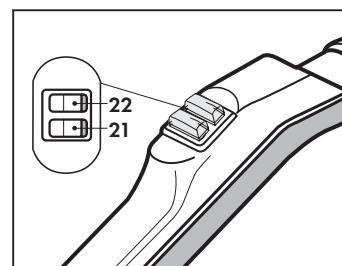

Fig. 10
- deliver steam and/or detergent, by pressing the red button (21) (**Fig. 10**);
- vacuum steam by pressing the blue switch (22) (**Fig. 10**);